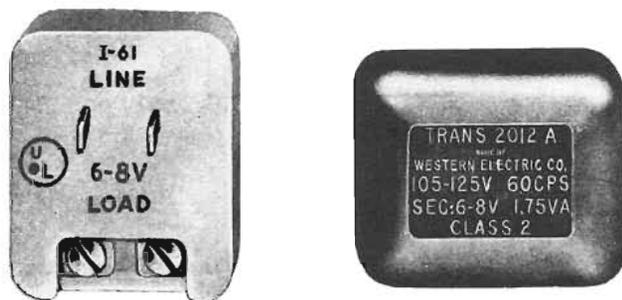

Fig. 2 – 2012A Transformer
5.01 The 2012A transformer (Fig. 2) supersedes KS-16184, List 3 transformer.